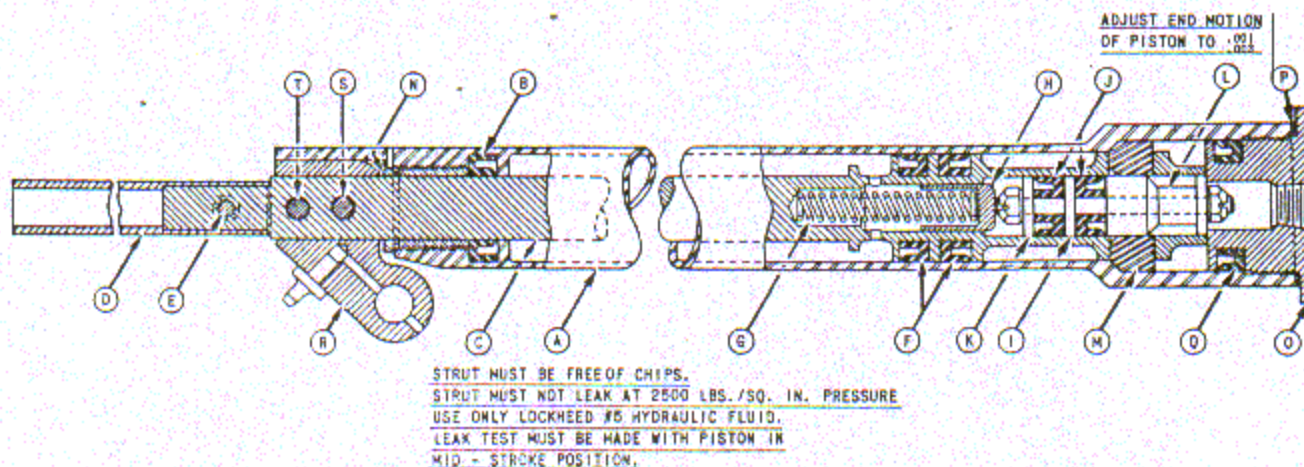

Fig. 87 - Tail gear - retracting strut.
(8) Tail Gear Retracting Cylinder: (Figure 87) The principle of operation of the tail wheel retracting cylinder is the same as the landing gear retracting cylinder except that no provision is made for locking the tail gear in the "Up" position. However, a lock is provided for the "Down" position. This lock is not connected to the landing gear warning system which operates the electrical horn.
(9) Wing Flap Actuating Cylinder: This cylinder consists of a hydraulic cylinder and piston located as described in this section, paragraph 16., a., (4).
(10) Lines: All hydraulic system tube fittings stamped 150 are heat treated, to 150,000 pounds per square inch. See nameplate in cockpit. All hydraulic lines are identified by a white and blue band on each side of every connection.
(7) To Disassemble and Assemble the Tail Wheel Retracting Cylinder: (a) To disassemble the cylinder, see Figure 87 remove lug "R". Remove the two attaching shear bolts connecting the lug to the piston and unscrew cylinder cap. Thus the piston and actuator will be free for removal.